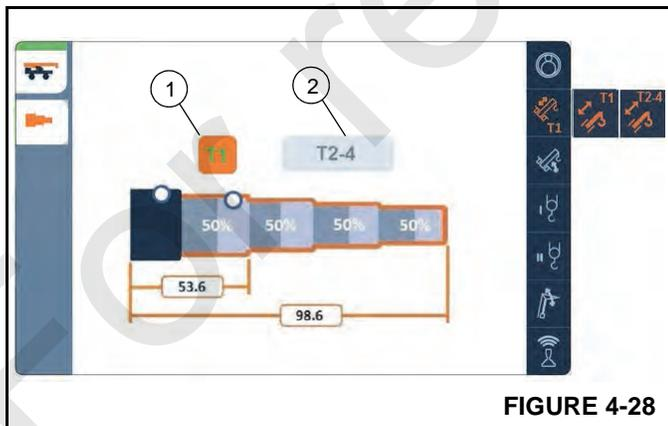

FIGURE 4-28
2. Review the Manual Telescope function screen (Figure 4-28) to determine which component(s) of the telescope system is out-of-sequence.